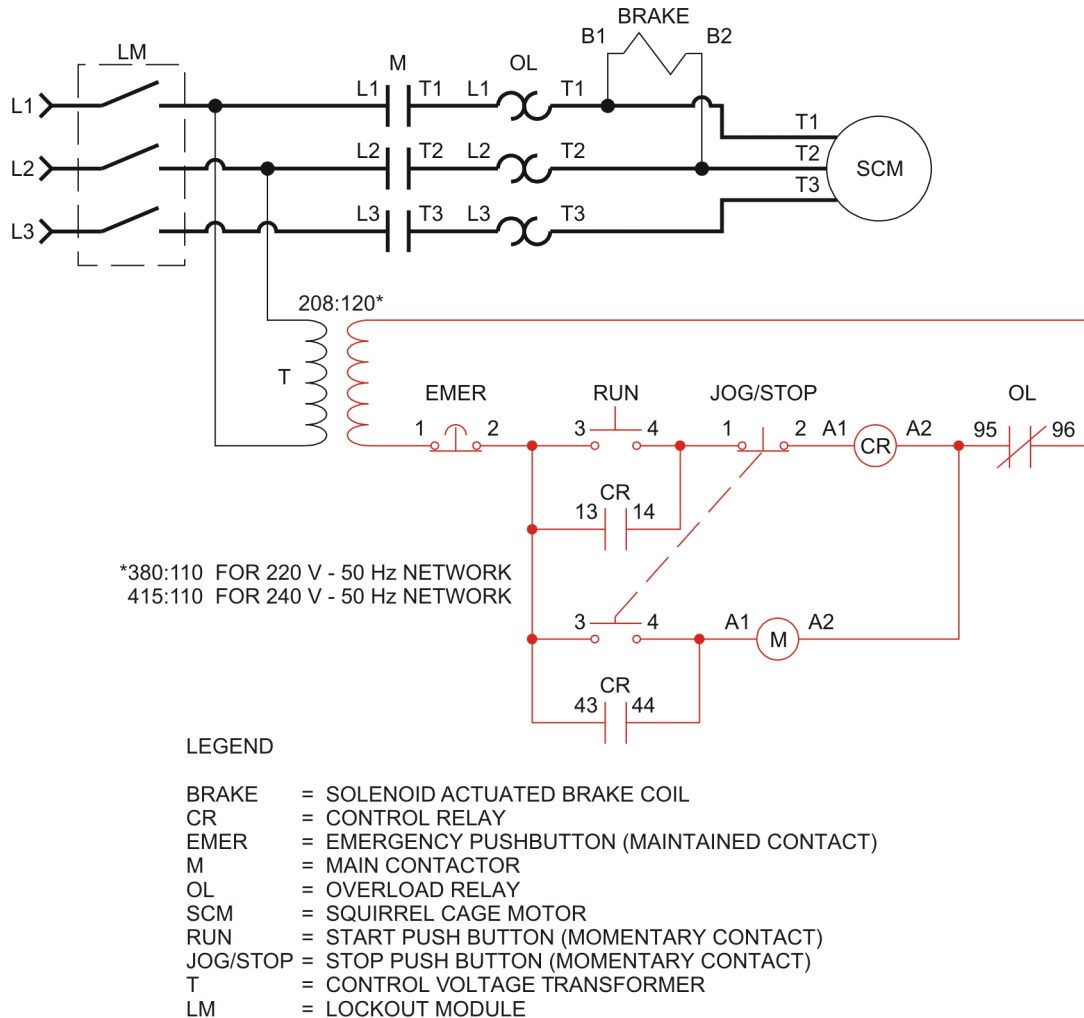

Figure 4-7. Jogging circuit with control relay.
Figure 4-7 shows a jog/run circuit using a control relay. When the RUN push button is pressed on, the control relay (CR) is energized and holding circuits are formed for both the control relay (CR) and the main contactor (M). The motor then starts and keeps running until the JOG/STOP push button is pushed, causing the control relay (CR) to de-energize.
*To implement the new circuit, you decide to set up a jogging circuit with a control relay. Implement the Figure 4-7 circuit and verify that it corresponds to what the client wants.*